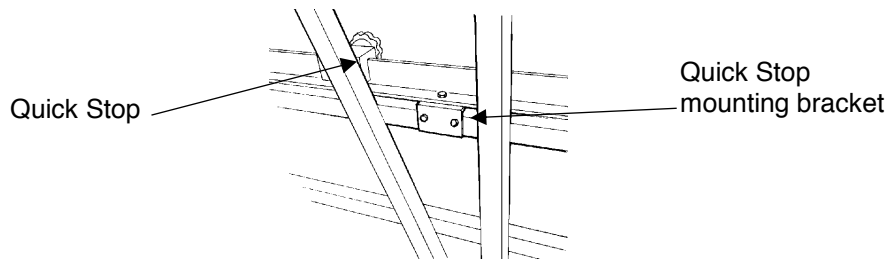

Figure 15: Quick Stop (from back)
- Place the Quick Stop on the second to lowest horizontal tube, on the left side of frame (when facing saw, Fig. 15).
- Attach by aligning mounting brackets to pre-drilled holes in back of horizontal tube. Install four (included) self-tapping hex head bolts and tighten (Fig. 15)